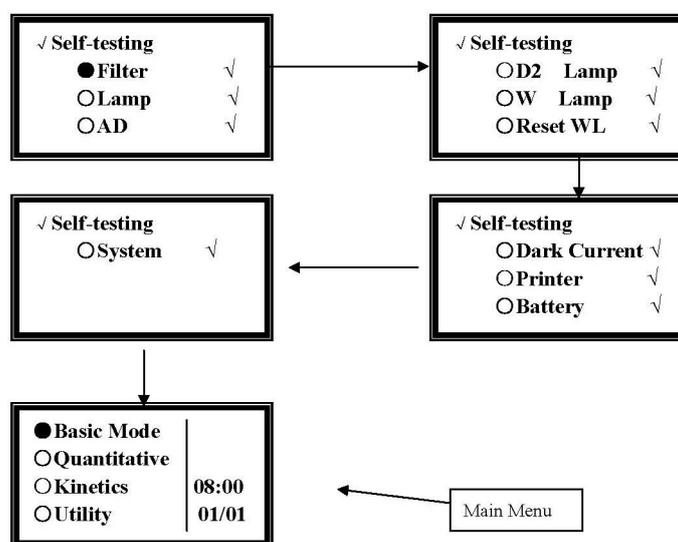
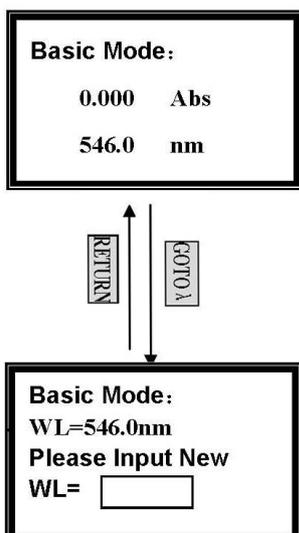

Fig 3
Figure 4
The self-testing process is as fig 3.
- Press **[GOTO]** (Fig.4).
Push the blank cuvette into the light path. In the main menu (the last one of Fig. 3), move the cursor onto "Basic mode" and then press **[ENTER]** to go into basic mode test. After automatically blanking, it will display as the upper one of Fig. 4 and wait for the operator.
Use **[>]** and **[<]** to move the cursor on **Abs.**, then press **[ENTER]**. If the icon "✓" appears at the end of **Abs.**, you have selected successfully. Press **[RETURN]** to exit to the upper screen of Fig. 4, blank at the same time. (Fig. 7)